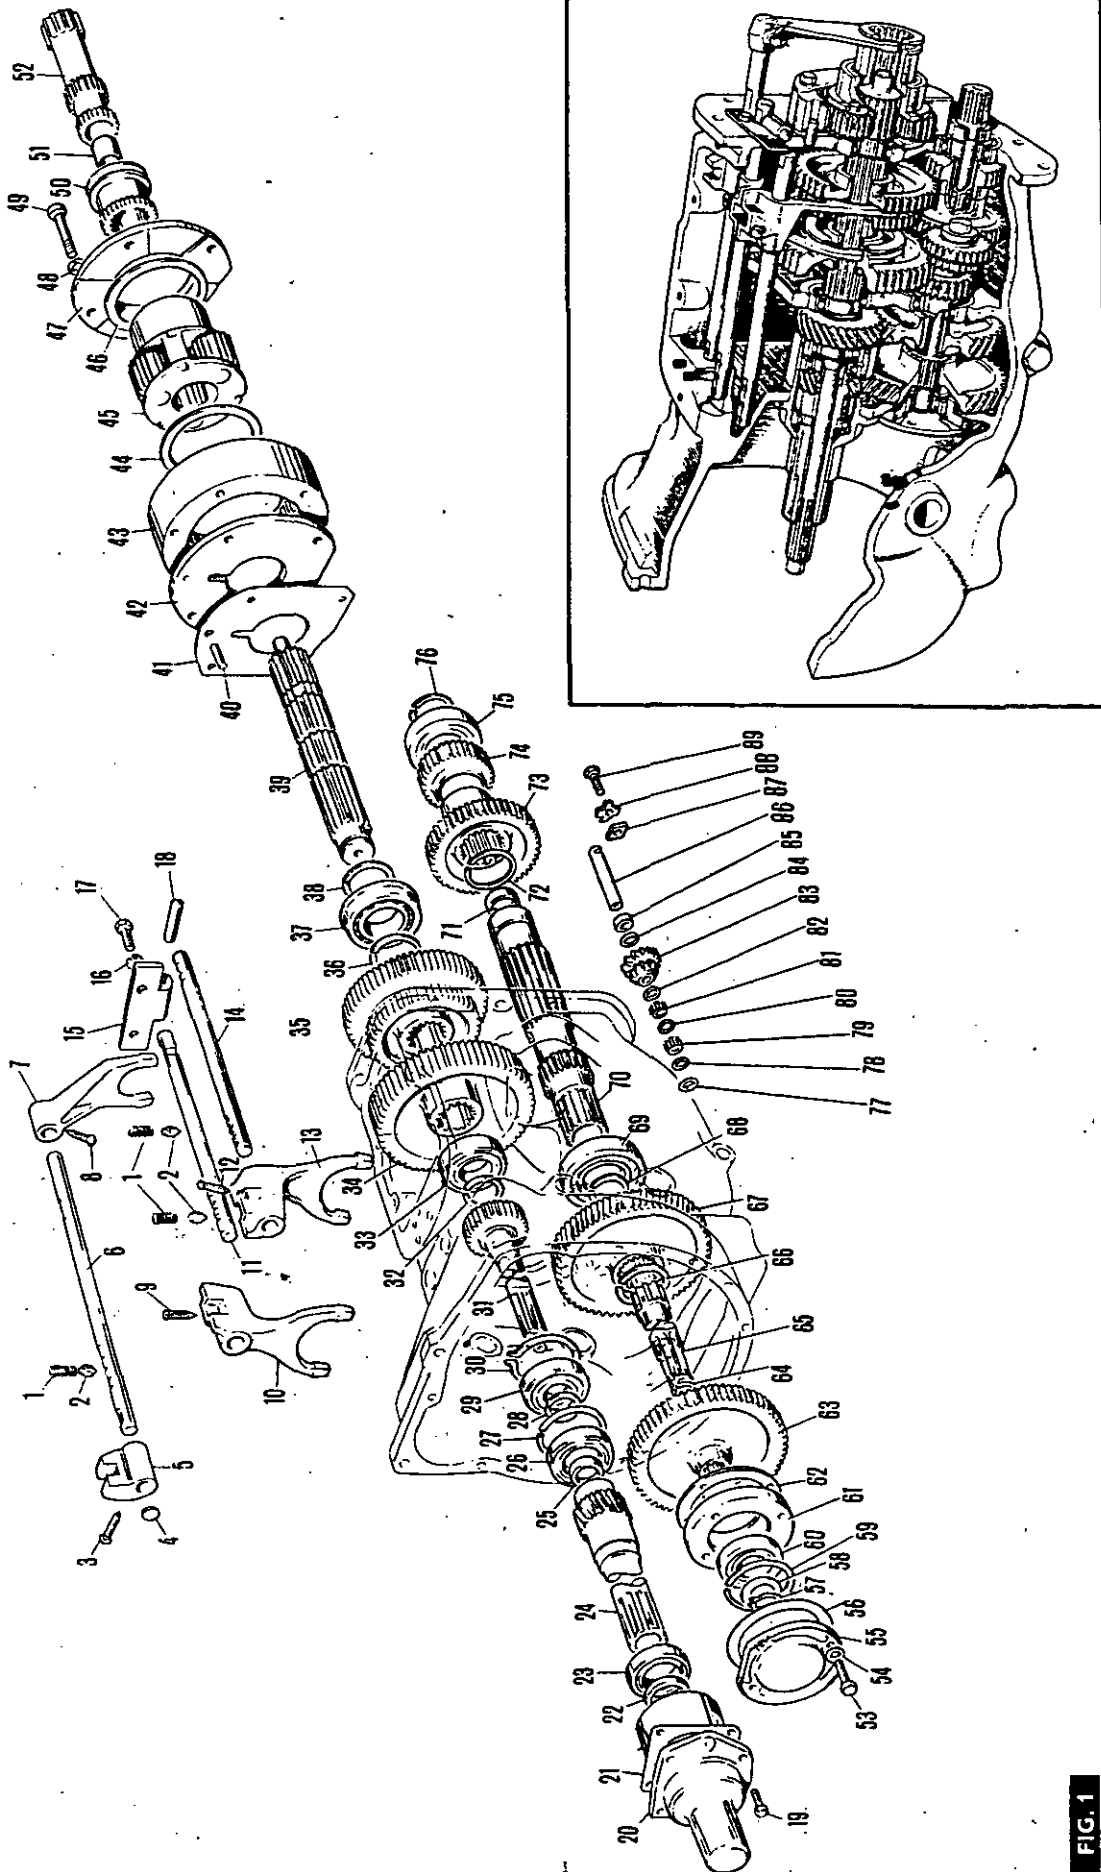

FIG. 1
**6-SPEED TRANSMISSION****PRINCIPLE OF OPERATION****Figure 1